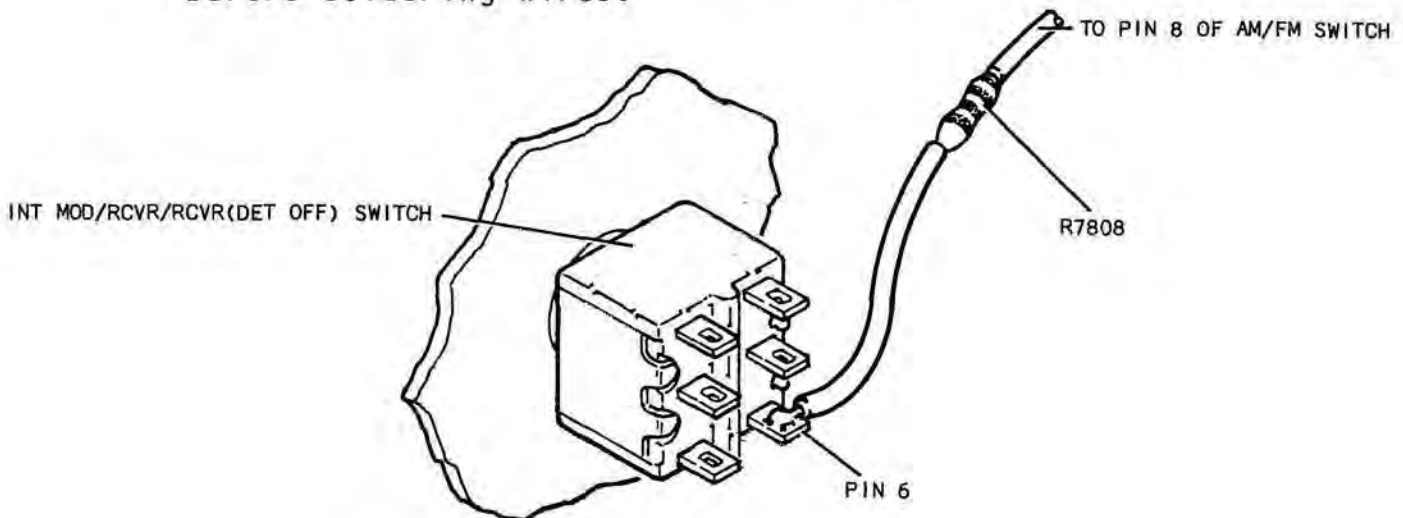

Figure 6-13 INT MOD/RCVR/RCVR (DET OFF) Switch Installation
H. INT MOD/RCVR RCVR (DET OFF) Switch (11) by attaching:
1. Lock washer and switch (11) at rear of panel (72); flat washer and hex nut at front of panel (72).
2. Ensure that switch is installed as shown in Figure 6-13 before soldering wires.